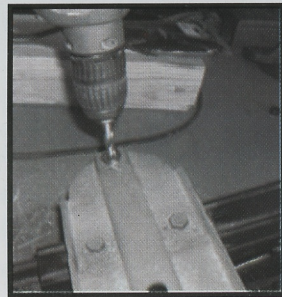

Fig.10
Step 6: (03-06 TJ/LJ ONLY) Drill out the two outbound threaded seat mounts on factory riser (Fig.10). 21/64th drill bit will be needed. Supplied M13 bolts will be used in these two locations.